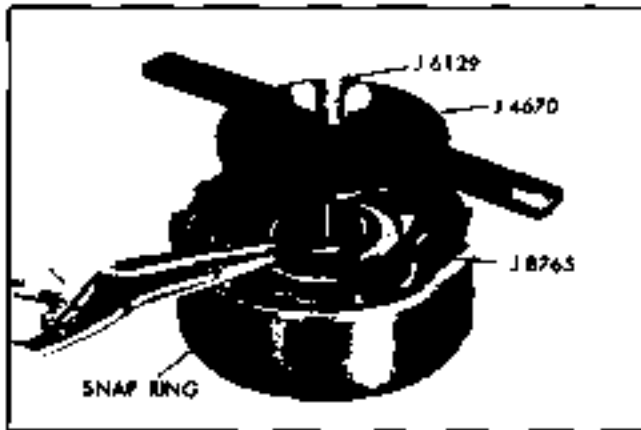

Fig. 7E-96 Removing Direct Clutch Piston Snap Ring
7. Remove direct clutch piston (Fig. 7E-96).